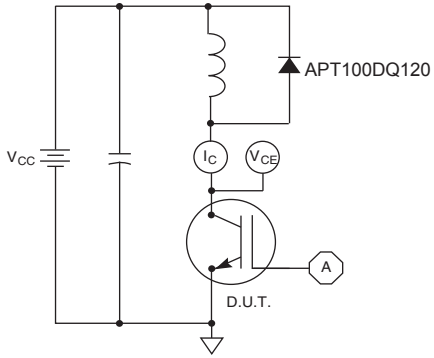

Figure 21, Inductive Switching Test Circuit
- ① Repetitive Rating: Pulse width limited by maximum junction temperature.
- ② For Combi devices, Ices includes both IGBT and FRED leakages.
- ③ See MIL-STD-750 Method 3471.
- ④ Eon1 is the clamped inductive turn-on energy of the IGBT only, without the effect of a commutating diode reverse recovery current adding to z a the IGBT turn-on loss. Tested in inductive switching test circuit shown in figure 21, but with a Silicon Carbide diode.
- ⑤ Eon2 is the clamped inductive turn-on energy that includes a commutating diode reverse recovery current in the IGBT turn-on switching loss. (See Figures 21, 22.)
- ⑥ Eoff is the clamped inductive turn-off energy measured in accordance with JEDEC standard JESD24-1. (See Figures 21, 23.)
- ⑦ RG is external gate resistance not including gate driver impedance.